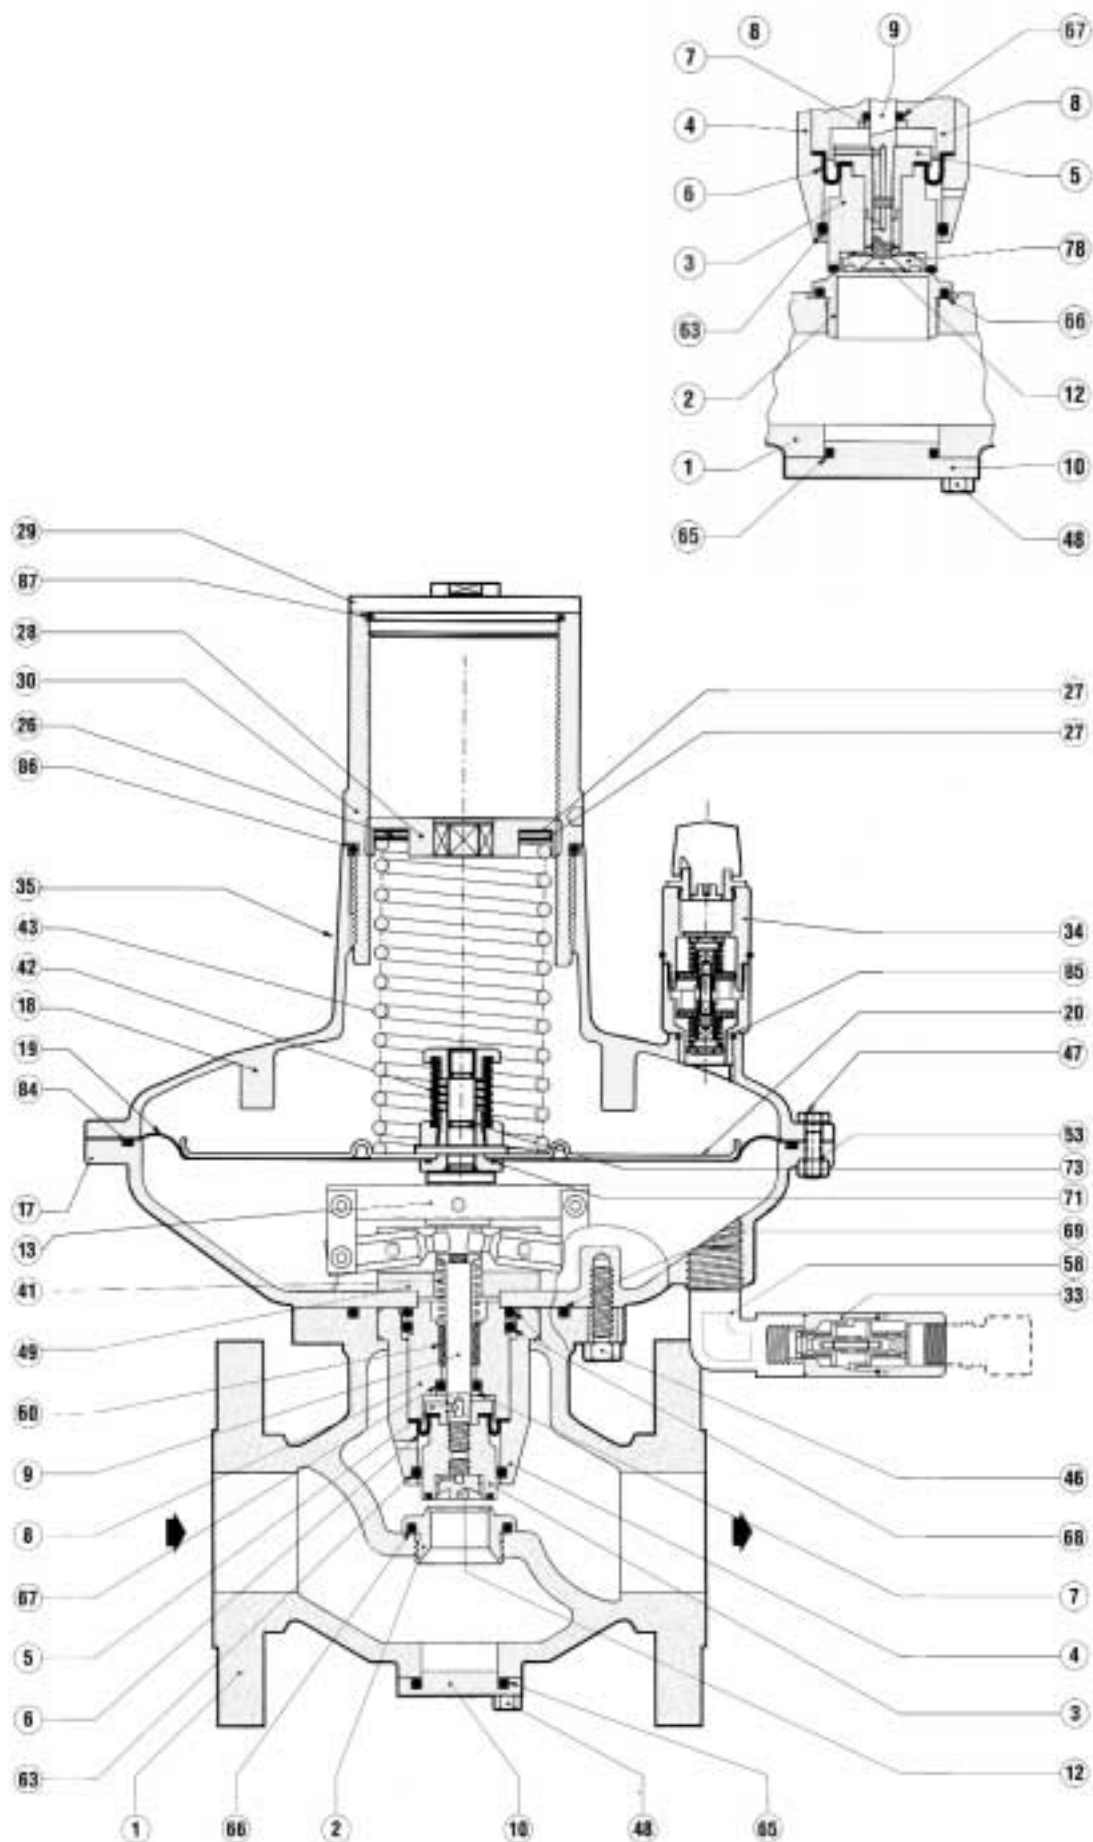

Fig. 19
6.1 Tab. 9 REGULATOR (FIG. 19 and 20)
7.2.1 DIVAL 160-250 REGULATOR (fig. 19).